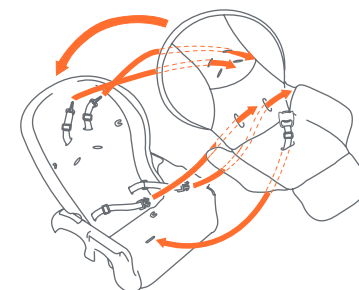

Fig. 18
- 18) • Thread non-buckle end of Harness Straps called Harness Attachment Tabs through the provided slots in the Seat Fabric, Seat Insert, Seat Back, and Seat Base (Fig. 18). When Harness Attachment Tabs are through the provided slots, rotate the Harness Attachment Tabs 90 degrees. Make sure that the straps are firmly in place.